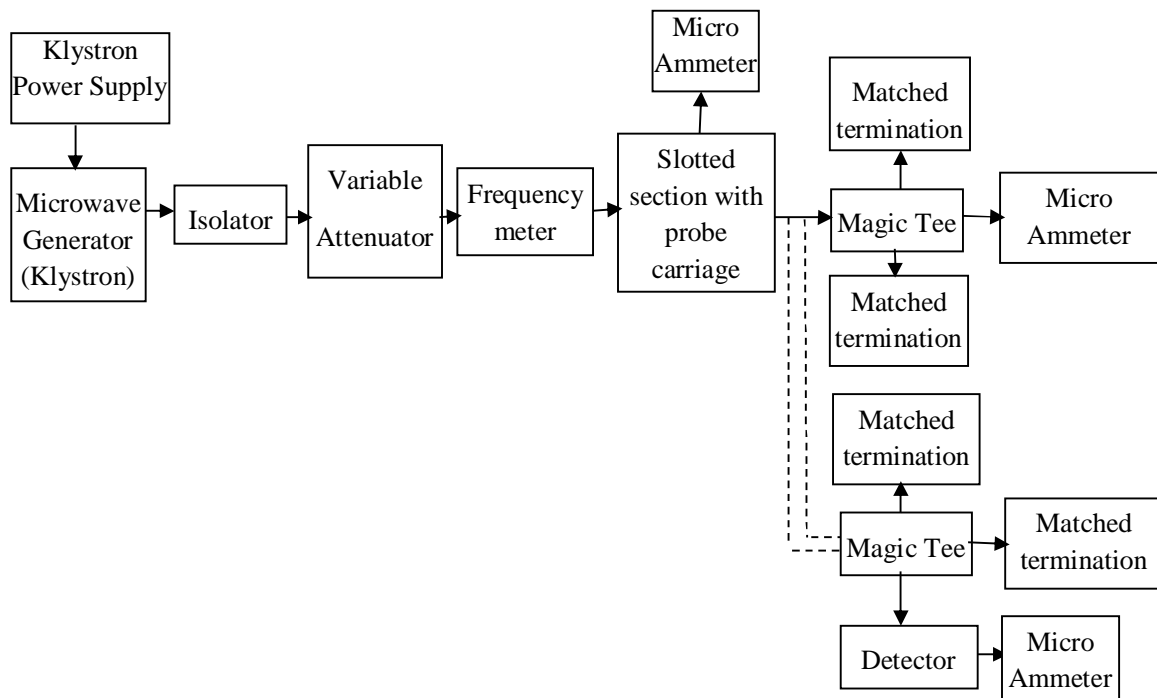

Fig .9.1 Experimental setup of study of Magic Tee (Transmission Coefficients)
1. Set up the equipments as shown in Fig.9.1.
8. Without disturbing the set up replace the tunable detector with the given Magic Tee, with its port1 connected as shown in figure9.1. Connect port 2 and port3 with matched terminations and port4 with a tunable matched detector and micro ammeter. Note the micro ammeter reading (I₄).